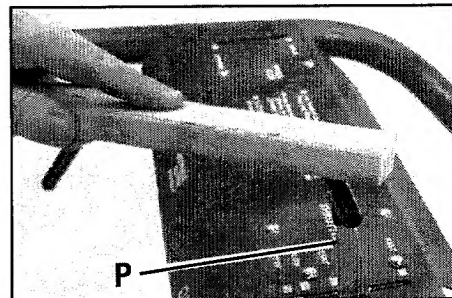

Figure 2-15: Attach engine throttle lever.
1. Route the throttle cable up the right-side handlebar and insert the lever (P, Figure 2-15) up through the slot in the control panel that is labeled "ENGINE THROTTLE."
4. Place the "T" shaped engine throttle lever knob on the end of the lever and use a board to tap the knob down until it seats firmly on the lever (see Figure 2-15).